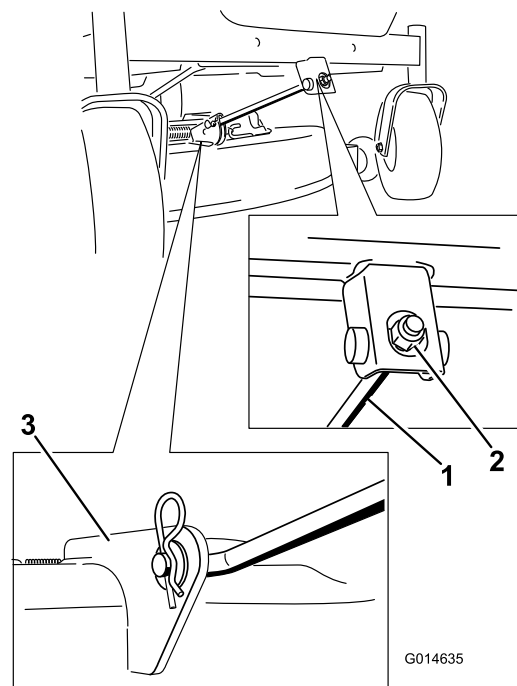

Figure 56
4. Remove the hairpin cotter from the front support rod, and remove the rod from the deck bracket (Figure 56). Carefully lower the front of the mower deck to the ground.
6. Attach the front support rod to the mower deck with the clevis pin and hairpin cotter (Figure 56).